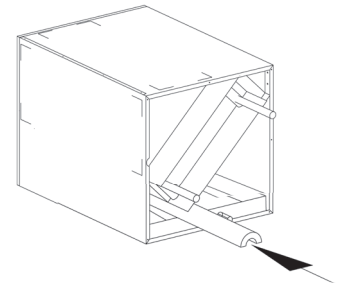

Fig. 08
- 6) Ensure the foam air dam is re-installed under the corner of the coil to prevent air from bypassing under the coil. (Fig. 08)